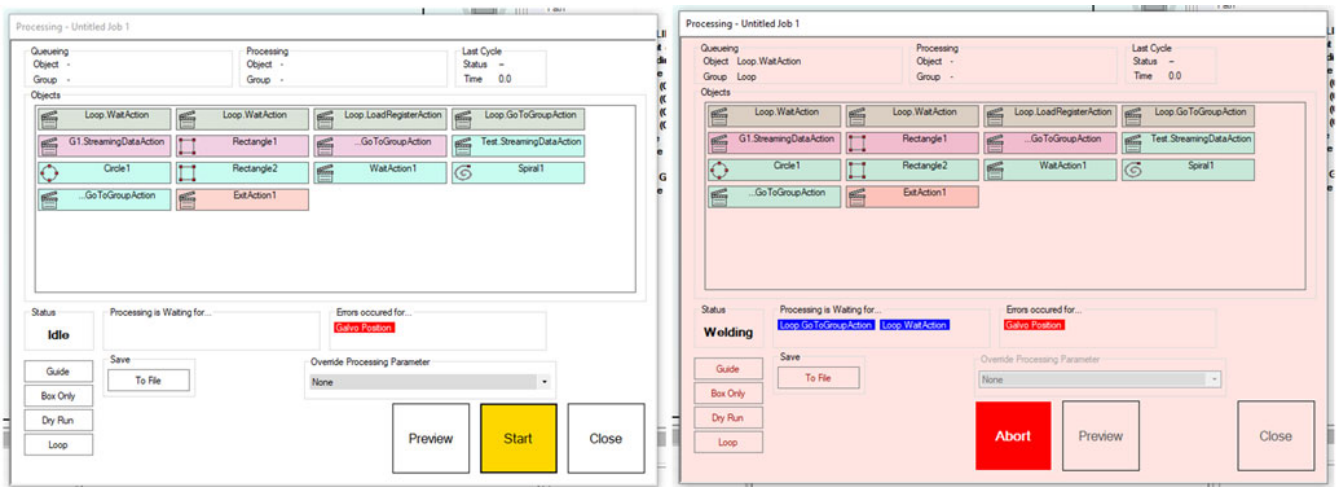

Figure 187: Idle and Actively Processing Process Windows
- This provides an indicator as to whether or not processing has started. For instance, prior to users clicking the "Start" button to start processing, this status will indicate "Idle." Once processing has been started, it will indicate welding/cleaning/marking. See Figure 187 (below).